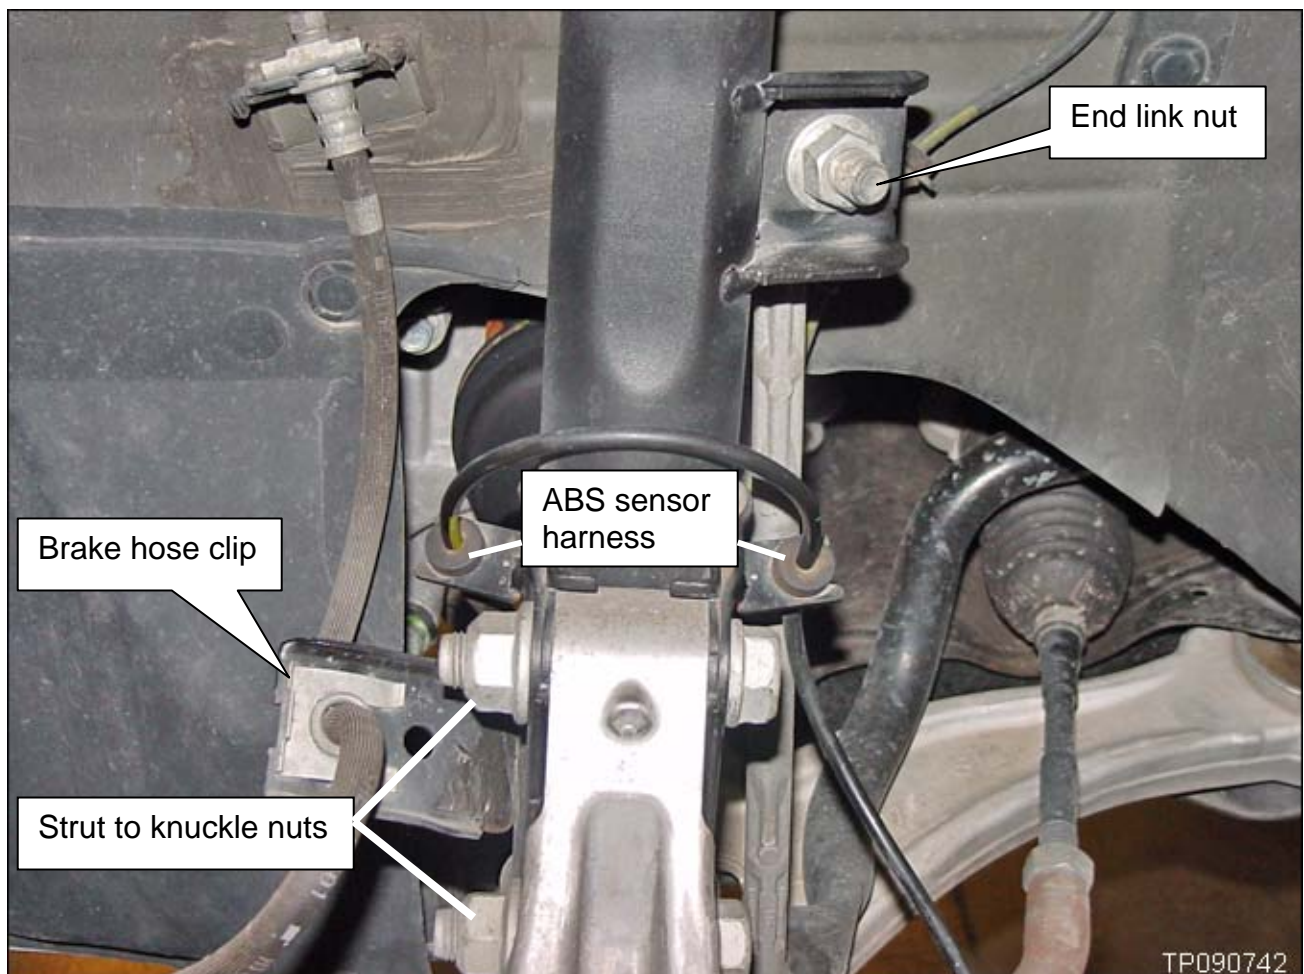

Figure 12
20. Torque the strut to knuckle nuts (see Figure 12).
21. Install the sway bar end link nut (see Figure 12).
22. Install the ABS sensor harness into the strut brackets – 2 spots (see Figure 12).
23. Install the brake hose and clip into strut bracket (see Figure 12).